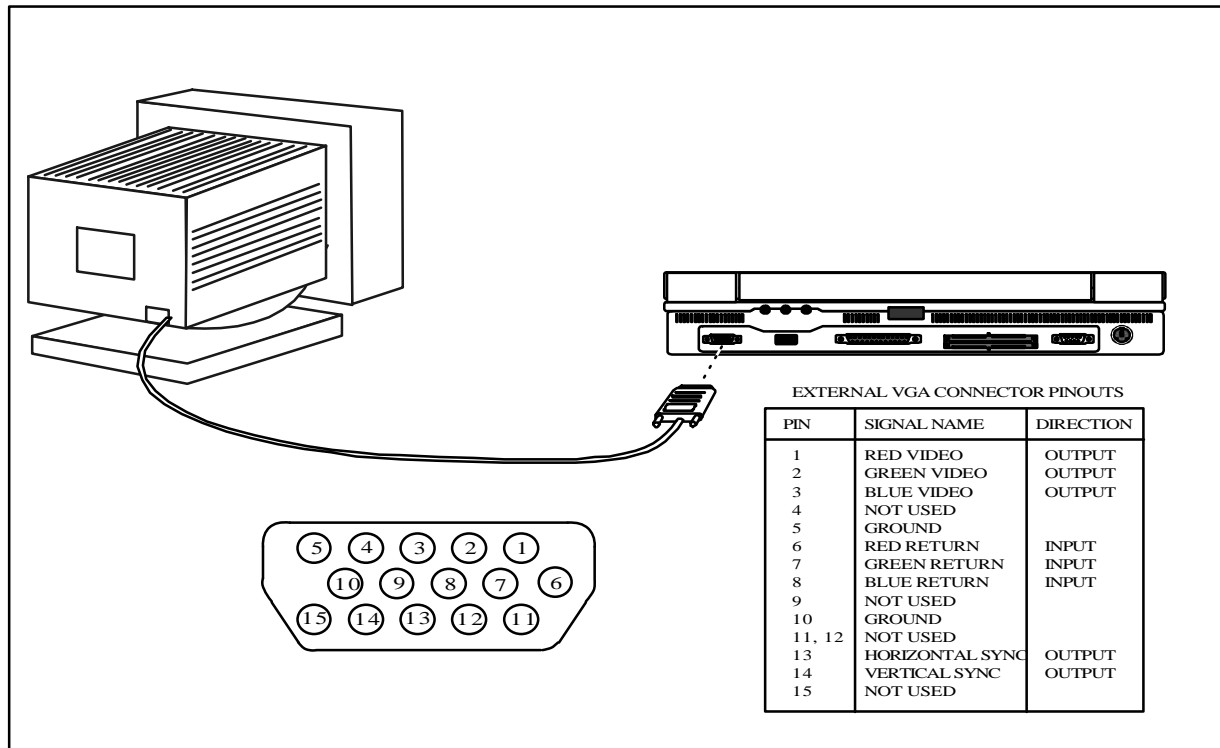

Figure 2-7 External VGA Pinouts
The notebook contains an external CRT port that can drive one of a variety of monitor resolutions and colors as summarized in Table 1-9. The associated connector location and pinouts are shown in Figure 2-7.
2. Connect the 15-pin external VGA cable from the monitor to the VGA connector on the notebook computer (refer to Figure 2-7).